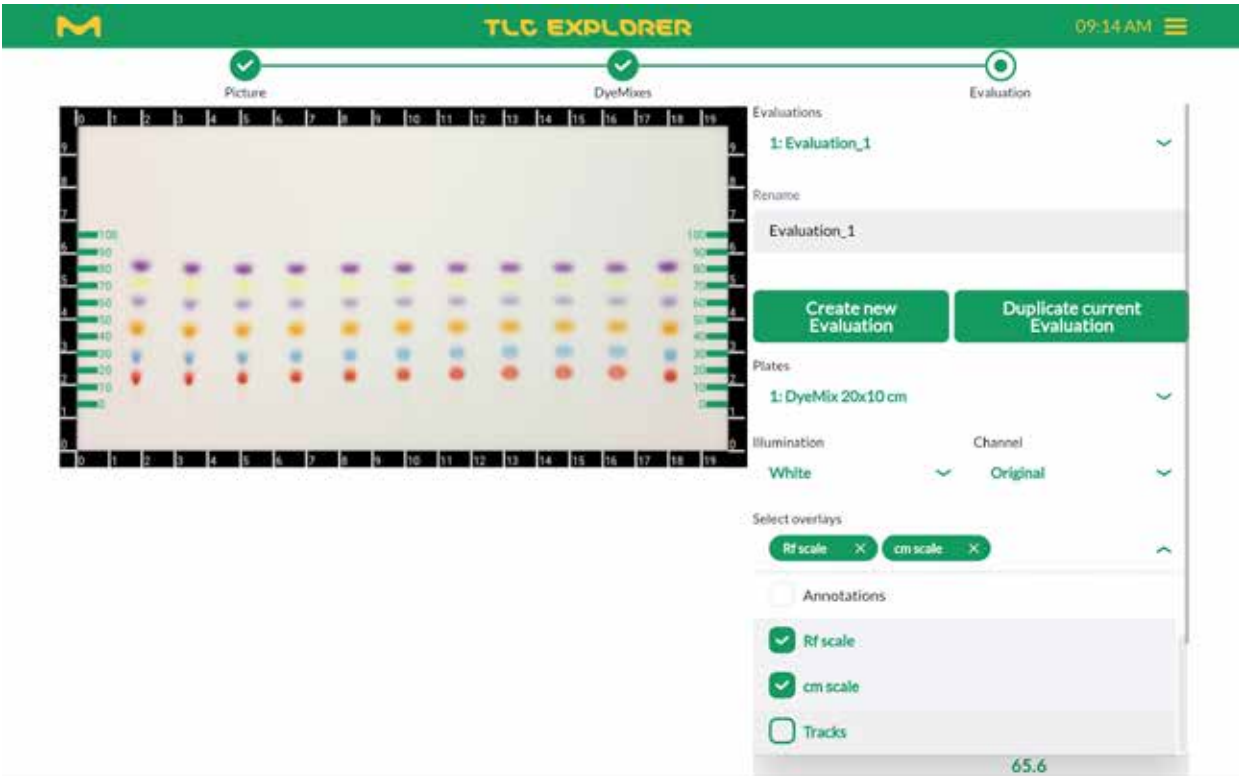

Figure 4.13: Configuring the preview area for Evaluation work
At any time during the Evaluation process, you can configure the preview area according to your needs (see figure 4.13). You can choose a plate, the plate image ('illumination') and a specific channel from this image (for details see section 4.6) that you would like to see. Furthermore, you can activate or deactivate the display of
- a centimeter scale around the plate (for example see figure 4.13), and